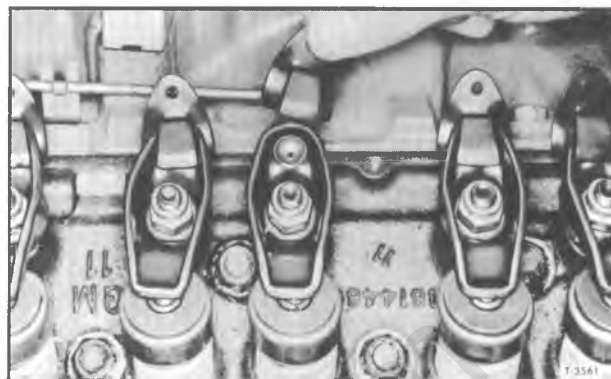

Figure 10—Use of Oil Deflector Clips on In-Line and V8 Engines
1. With engine running at idle speed and rocker arm cover removed, install oil deflector clips (fig. 10) to prevent oil spatter while adjusting hydraulic lifter plunger position.